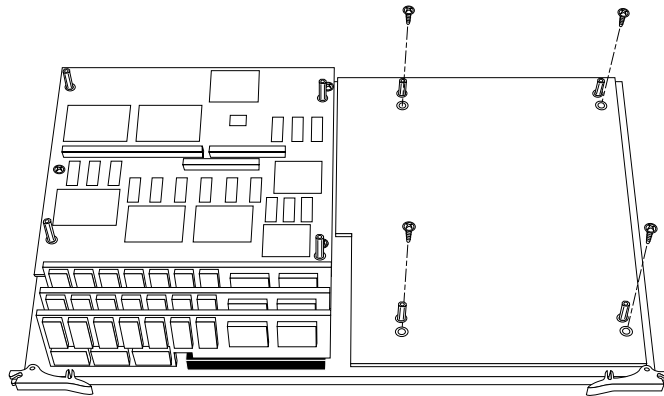

Figure 2-8 Attaching the blank ZB4 board
1. Position the blank ZB4 board from the Galileo Video package over the graphics board set, as shown in Figure 2-8.